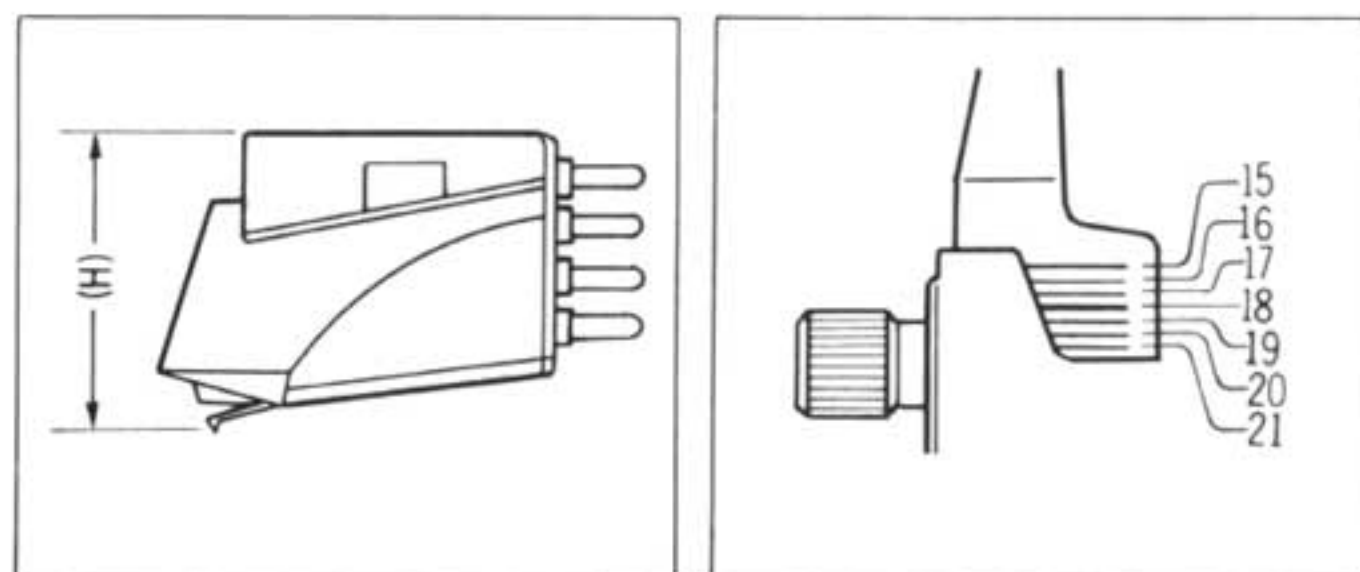

Fig. 17
- If the cartridge height is 18 mm as shown in the picture, lock the arm bearing support at the line indicated in the picture. (See Fig. 17) The arm height can be adjusted in 1 mm increments over a range of 6 mm.